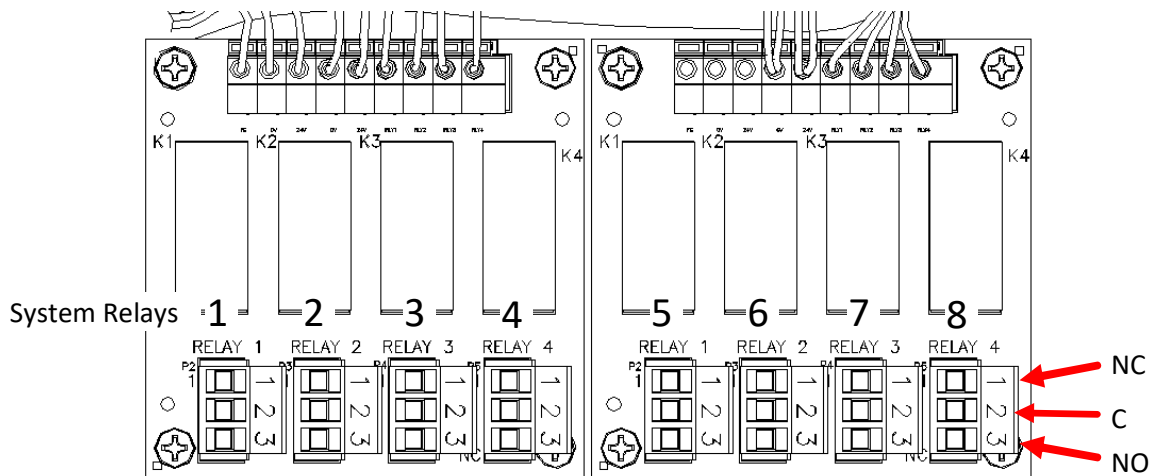

Figure 4 Relay Boards
The standard configuration has 8 SPST 230V 15A relays that can be wired either **normally open (NO)** or **normally closed (NC)**. Diagram of the relays can be seen in Figure 4 Relay Boards Page 5.